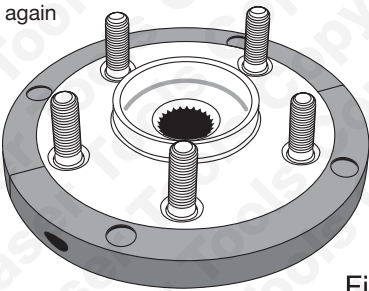

Fig 2
- Refer to Fig 2: Assemble insertion clamshells (A) onto new bearing/flange and secure with set screws (D) supplied.
- Assemble the four force pins (E) to the force plate (B). The rubber O-ring on the force pin will secure it in the force plate socket.